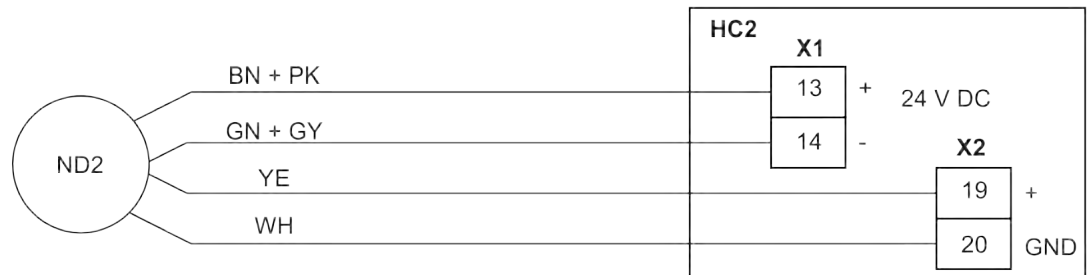

Fig. 23-5 Connection 3-wire Inclinometer to Analogue Input 2
- Connect the 3-wire inclinometer to analogue input 2 according to Fig. 23-5.